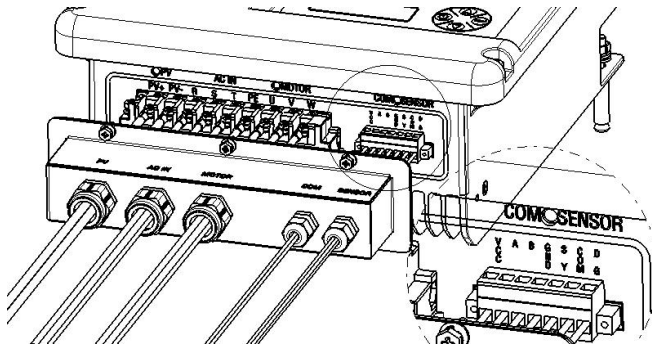

Figure6-1 External connection terminals of inverter
All connection terminals are at the bottom of the inverter, Remove the terminal cover with a cross screwdriver, It contains DC side input (PV) terminal, AC side AC input (AC IN), AC output (MOTOR) terminal, communication terminal and water level sensor terminal inside The DC side input terminal, AC side input and output terminals, and the grounding terminal are connected by a terminal block. The communication terminal and water level sensor terminal are connected by a signal terminal block. Please refer to Figure6-1.